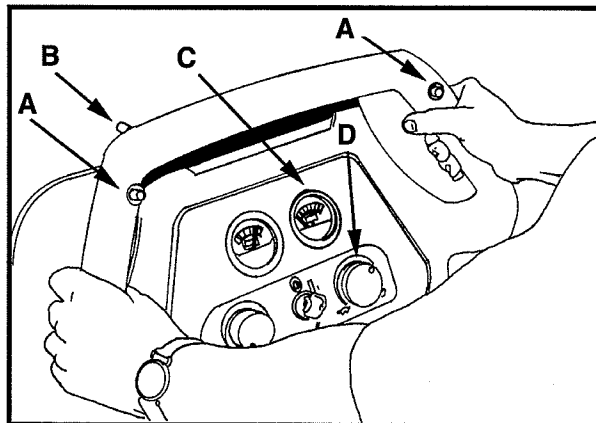
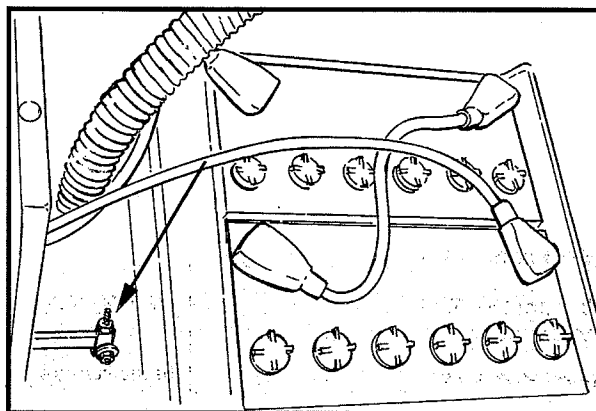

Figure 18
Figure 19
5. Hold the control handle as shown in figure 18.
6. When either the right or left forward/reverse switches (figure 18, item A) are pushed in, the machine will go forward.
7. Control the speed of traverse by using the speed control knob. (Figure 18, item D)
9. To reverse the machine, push in the white reverse switch (figure 18 item B) and either the right or left forward/reverse switch (figure 18 item A) at the same time. **NOTE: Anytime the machine is reversed, the squeegee must be raised to either of the two up positions. This will prevent damage to the squeegee.**
2. Turn the brush lift spring lock nut (figure 19) clockwise for more pressure and counterclockwise for less pressure. Use the brush pressure meter (figure 18, item C) to determine the best setting. The needle should stay in the green area.